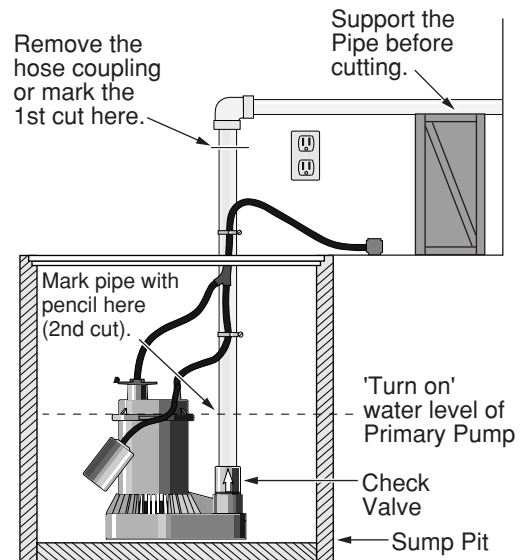
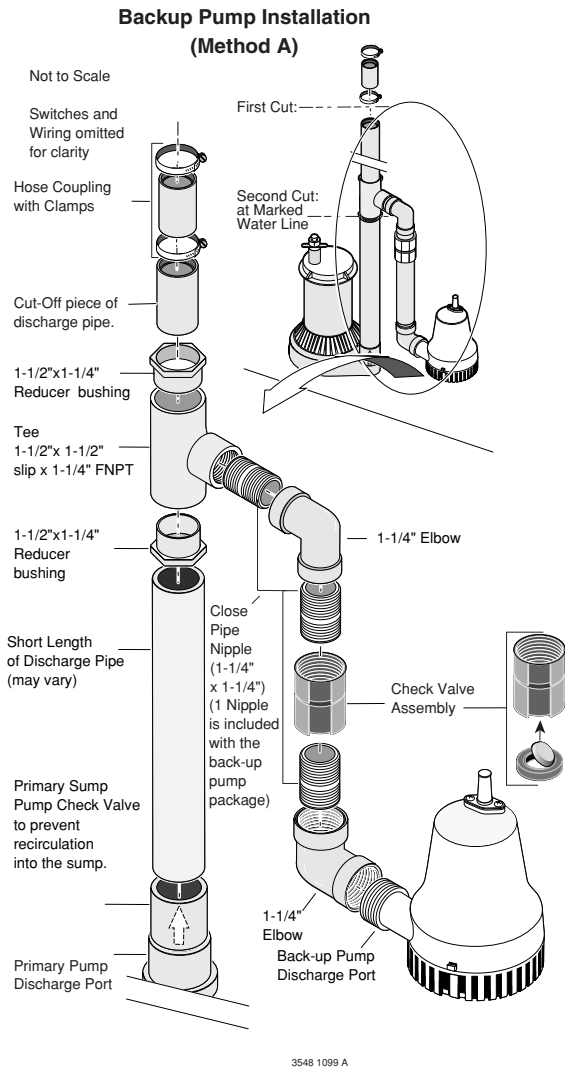

Figure 1 – Mark and cut pipe as shown
Figure 2 - Installation diagram – Method A
1. Locate the "on" water level of the primary sump pump. Mark this location on the discharge pipe with a pencil. See Figure 1.
The recommended method suggests installing both of the pumps on the floor of the sump pit. See Figure 2. The minimum required sump basin diameter at the bottom of the pit and the recommended depth of the sump basin is 18". Some additional materials you will need are 2 1-1/4" 90° elbows and 2 1-1/4" close pipe nipples.
1. Make the second cut in the discharge pipe at the pencil mark as shown in Figure 1 on Page 4, and in Figure 2, on Page 5. Clean the pipe ends with a cloth towel and set the cut-off piece of discharge pipe aside.